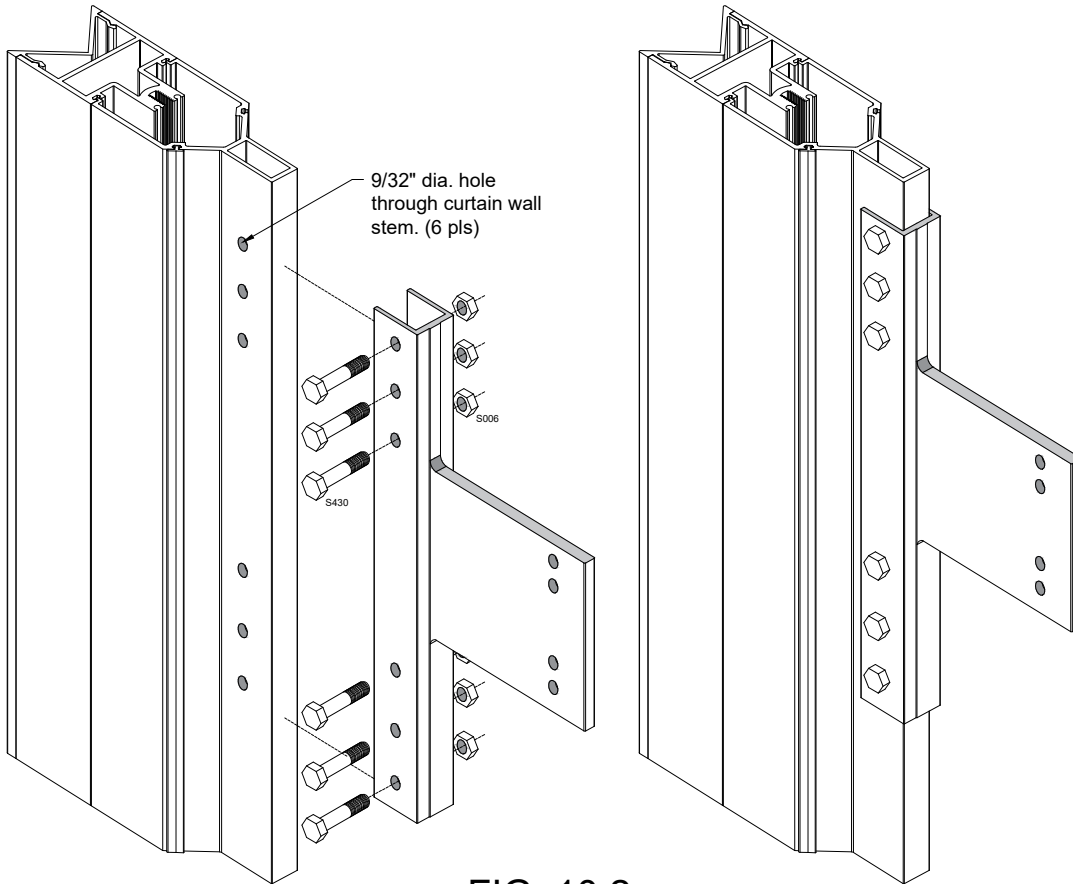

FIG. 10.2
- 2) Install bracket P6941 sun shade bracket securing with S430 bolt and S006 nut. Fig. 10.2.